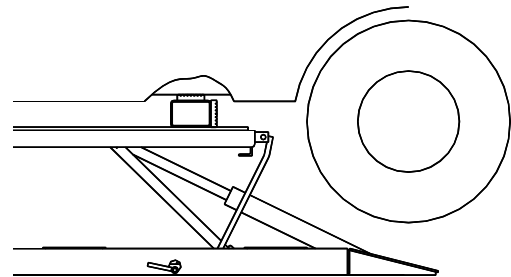

Fig. 6 Optional Spacer Pads
- D. Use optional 4 3/4" and 6 3/4" spacer pads if additional height between lift and vehicle is required to clear underbody parts as shown in **Fig. 6**.